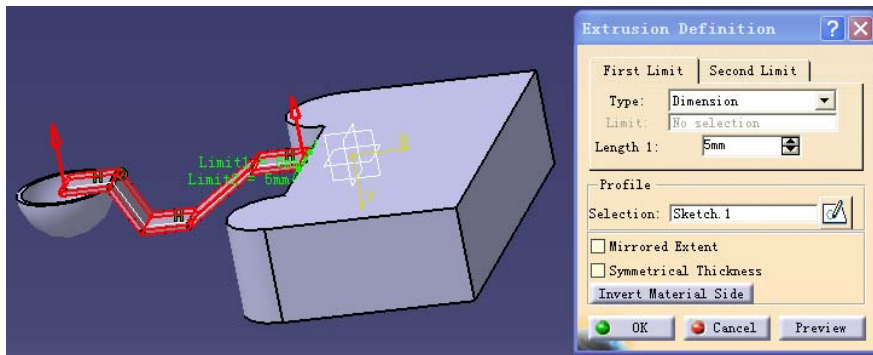

图 8-28
(6) 点击  后, 设 Thickness=1mm, Default Bend Radius=8mm, 点击  , First Limit → Length 1 设为 5mm, Second Limit → Length 2 设为 5mm (见图 8-28);